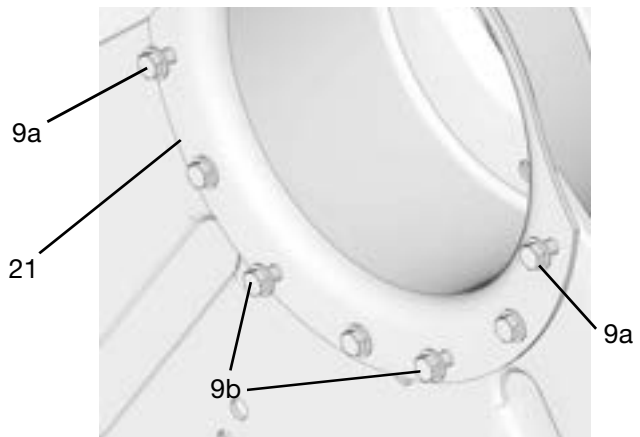

FIG. 6
2. Remove four (4) of the mounting bolts (9a and 9b, FIG. 6) from the motor mounting bracket (21). These holes are used to secure the motor module (26) to the motor mounting bracket (21).